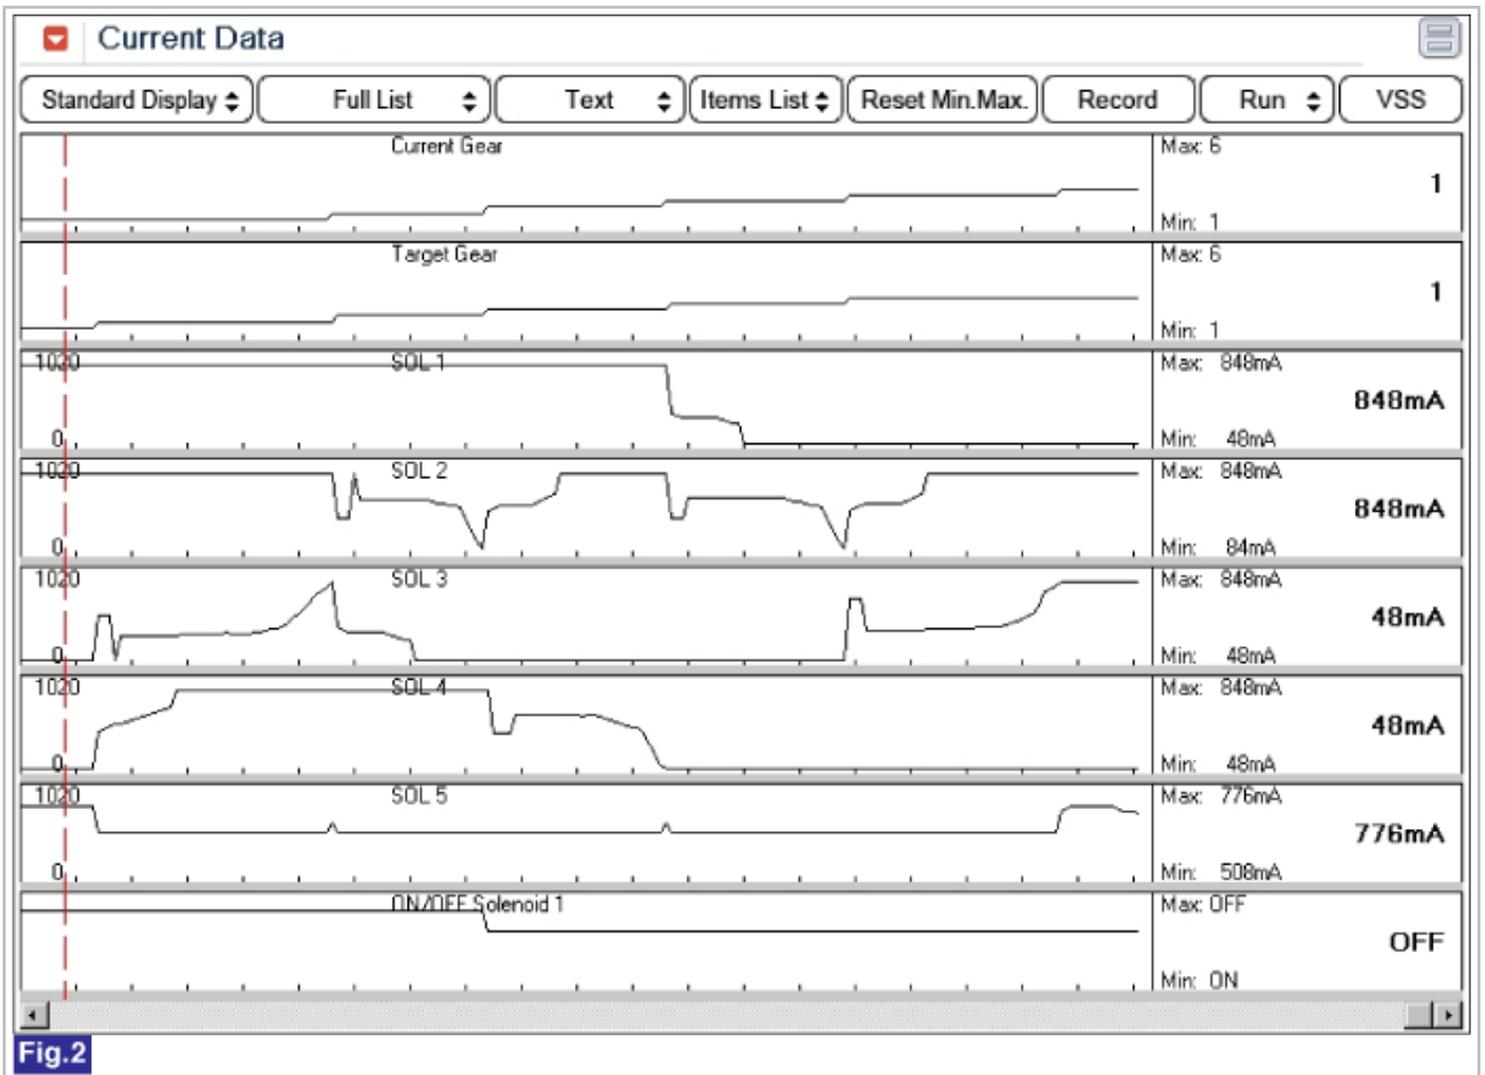

Fig.2
- Fig 2) Solenoid valves in 1st gear-graph